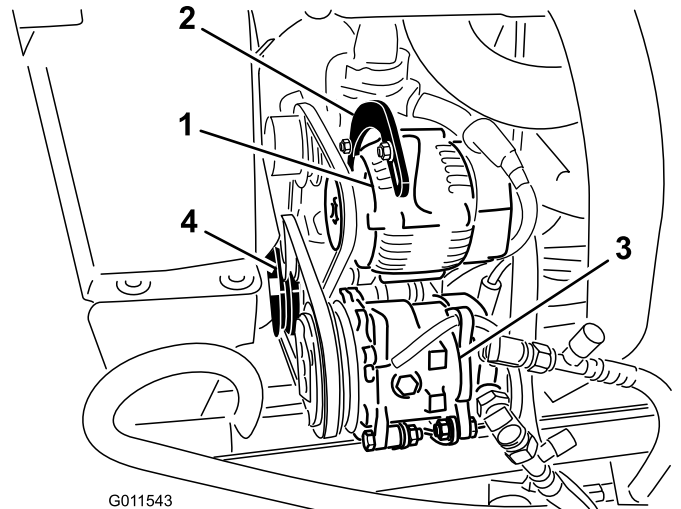

Figure 69
Check the condition and tension of the belt (Figure 69) after every 100 operating hours.
2. If the deflection is not 3/8 inch (10 mm), loosen the alternator mounting bolts (Figure 69). Increase or decrease the alternator belt tension and tighten the bolts. Check the deflection of the belt again to ensure that the tension is correct.
2. If the deflection is not 3/8 inch (10 mm), loosen the idler pulley mounting bolt (Figure 69). Increase or decrease the compressor belt tension and tighten the